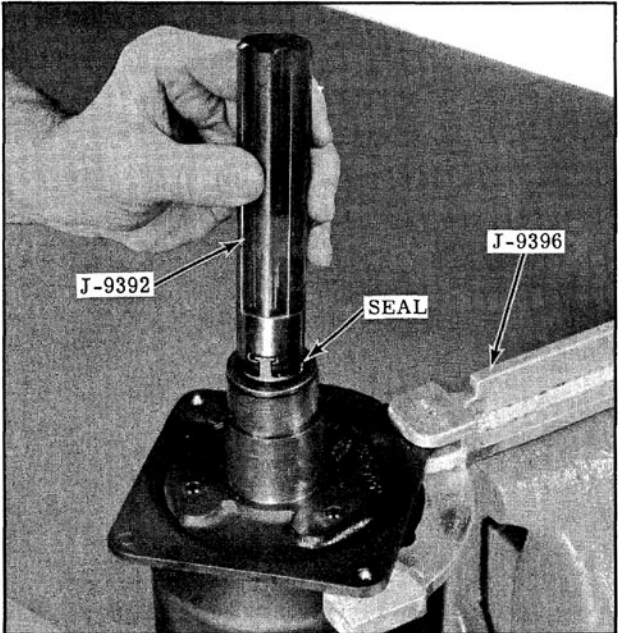

Fig. 14-104 Removing Seal
6. Insert Tool J-9392 on top of seal. Rotate clockwise and force tool downward until tool engages tangs of seal. Remove seal by lifting tool out of housing. (Fig. 14-104)